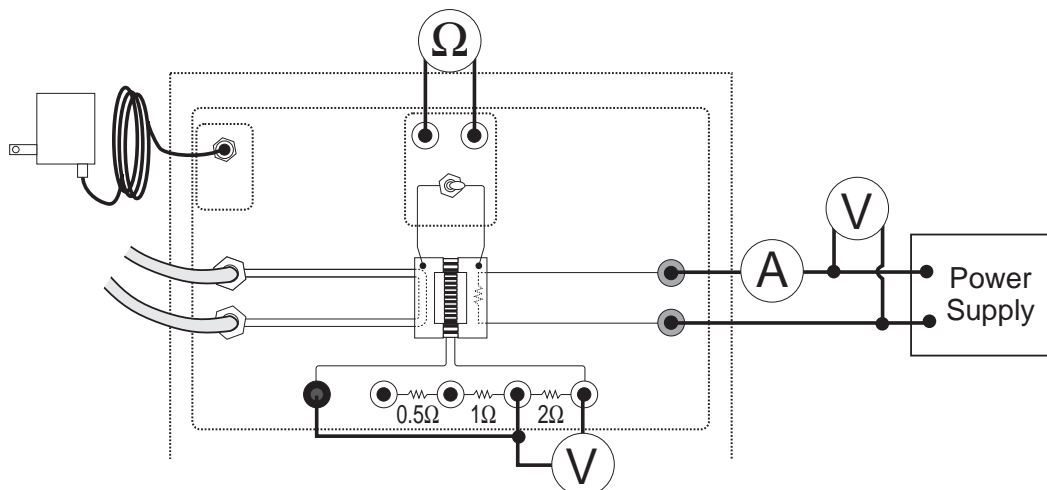

Figure 1.1
- ⑤ Connect the  $2\Omega$  load resistor with a short patch cord as shown in Figure 1.1. Connect a voltmeter across the load resistor. The choice of the  $2\Omega$  load resistor is arbitrary. Any of the load resistances may be used.